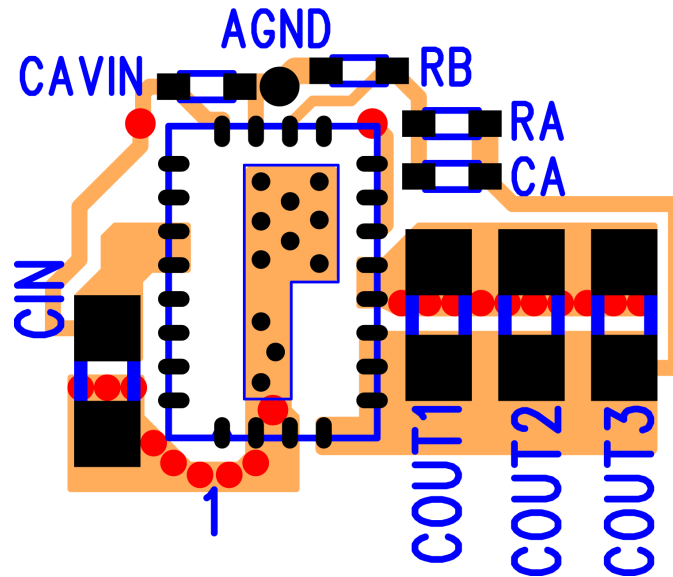

Figure 9: Optimized Layout Recommendations
**Recommendation 5:** AVIN is the power supply for the small-signal control circuits. It should be connected to the input voltage at a quiet point. In Figure 9 this connection is made at the input capacitor. Connect a 1µF capacitor from the AVIN pin to AGND.
**Recommendation 6:** The layer 1 metal under the device must not be more than shown in Figure 9. See the section regarding exposed metal on bottom of package. As with any switch-mode DC-DC converter, try not to run sensitive signal or control lines underneath the converter package on other layers.